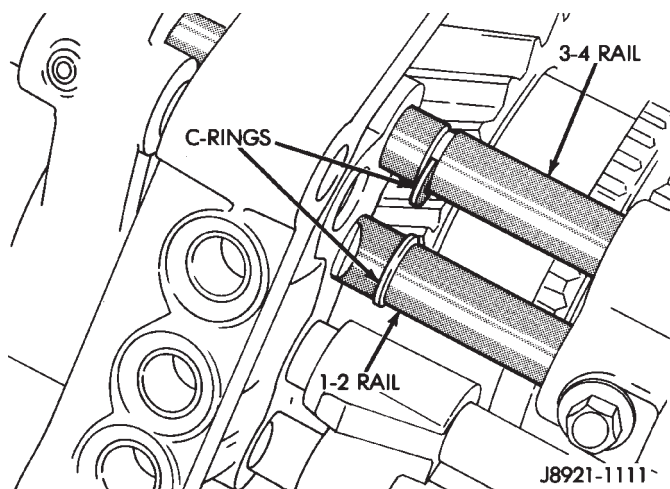

Fig. 91 Install Shift Rail C-rings
(20) Install c-rings to 1-2 and 3-4 shift rails (Fig. 91).